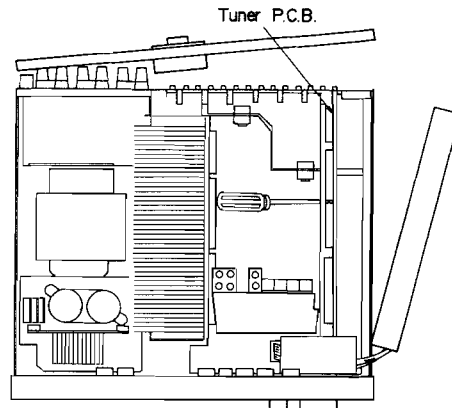

Fig. 2
4. When checking the soldered surface of the digital P.C.B. and replacing the parts, do as shown in the Fig. 2.